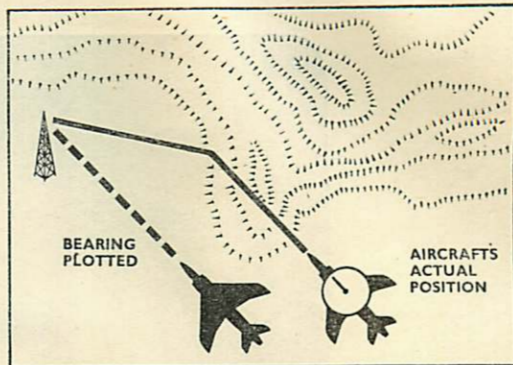

Fig. 11. High Terrain Effect.
40. Radio waves striking mountainous terrain (Fig. 11) are diffracted, reflected, and partially absorbed. Consequently, bearings obtained from stations lying across ranges of high terrain should be used cautiously. Height is of great importance in assessing bearings of this type, as an aircraft with sufficient height receives that portion of the ground wave which has not been affected by the terrain. The proximity of the transmitter to the obstructing high terrain must also be considered.